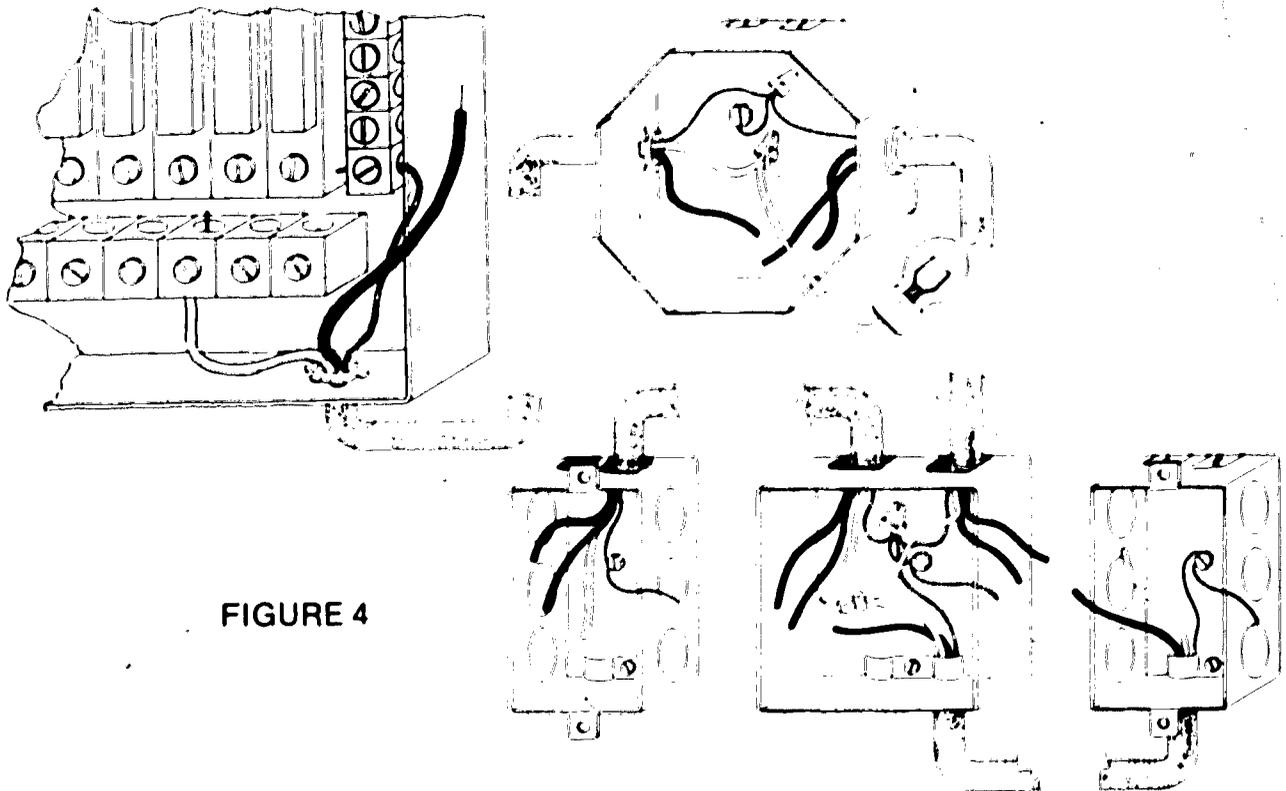

FIGURE 4
*K. Connect all neutral conductors (Figure 4)